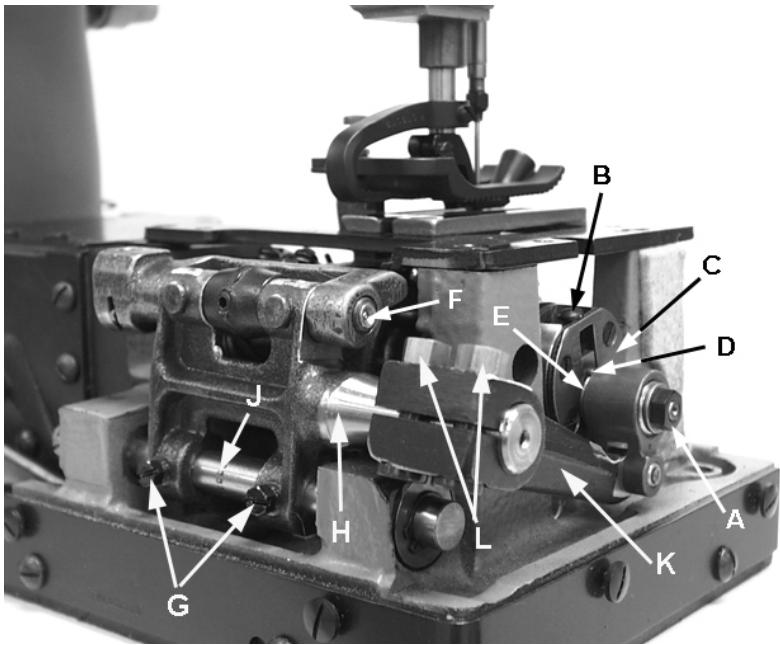

Fig 12
Right to left adjustment can be made by loosening screws (G, Fig. 12) and slightly move feed rocker (H) on feed rocker shaft (J) as required, then retighten screws. Check to ensure that feed rocker arm (K) does not bind after adjustment.
Forward or rearward centering of feed dog can be accomplished by loosening nuts (L, Fig. 12), move feed rocker (H) as required and retighten nut.
Set the stitch to required length. This is accomplished by loosening lock nut (A, Fig.12) 1/2 turn, (it has a left hand thread) on the end of the stitch regulating stud and turning stitch adjusting screw (B) located under the left end of the cloth plate in the head of the mainshaft (C), which is marked with "L" and "S". Turning the screw in a clockwise direction shortens the stitch (moves stitch regulating stud toward the "S") and turning it in a counterclockwise direction lengthens the stitch (moves stitch regulator stud toward the "L"). Retighten the lock nut securely. To prevent destructive damage to the feed drive bearing, key screw (D) must engage the "U" shaped key slot in ferrule (E).
Grease fittings have been added to both ends of feed bar shaft (F, Fig 12). It is advisable to add #2 bearing grease at these points every month using grease gun AS60-187. A can of grease can be ordered under part number GR18.